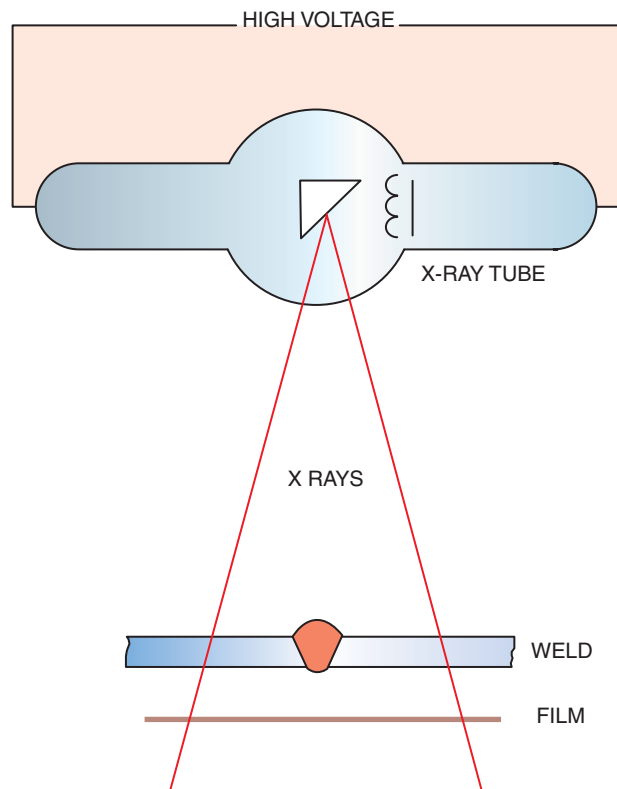

Figure 9.38 Schematic of an X-ray system
Radiographic inspection (RT) is a method for detecting flaws inside weldments. Radiography gives a picture of all discontinuities that are parallel (vertical) or nearly parallel to the source. Discontinuities that are perpendicular (flat) or nearly perpendicular to the source may not be seen on the X-ray film. Instead of using visible light rays, the operator uses invisible, short-wavelength rays developed by X-ray machines, radioactive isotopes (gamma rays), and variations on these methods. These rays are capable of penetrating solid materials and reveal most flaws in a weldment on an X-ray film or a fluorescent screen. Flaws are revealed on films as dark or light areas against a contrasting background after exposure and processing, Figure 9.38.